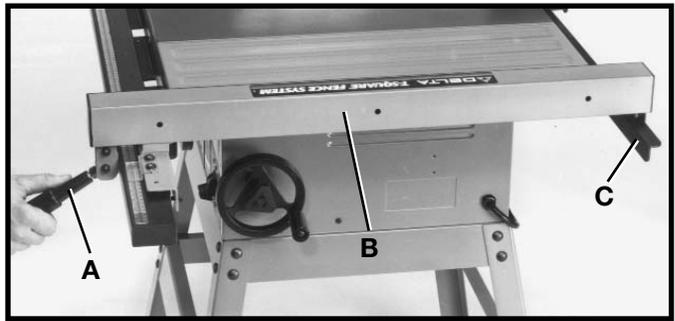

Fig. 22
2. With handle (A) Fig. 22 in the raised position, place rip fence (B) on the saw table as shown. **NOTE:** Make certain rip fence (B) is engaged on rear guide rail (C). Move rip fence (B) against saw blade as shown in Fig. 23.